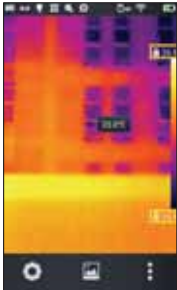

Fig. 1
1. On the real-time imaging interface, click the temperature data area at top or bottom of the color palette (the yellow box area as shown in Fig. 1), to enter the "manual dimming mode", and lock the dimming parameters (as shown in Fig. 2).